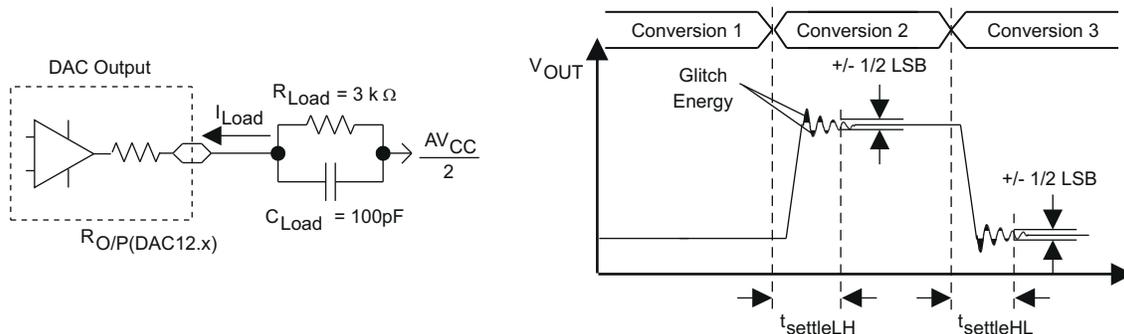
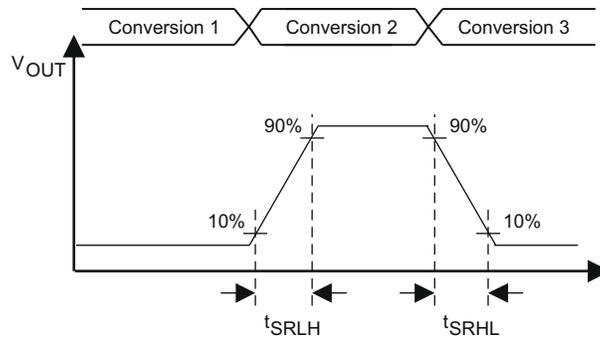

Figure 8-25. Settling Time and Glitch Energy Testing
Figure 8-26. Slew Rate Testing
V_{ref} = V_{CC}, DAC12IR = 1, over recommended operating free-air temperature range (unless otherwise noted) (see Figure 8-25 and Figure 8-26)
| t _{ON} DAC12 on time | DAC12_xDAT = 800h, Error _{V(O)} < ±0.5 LSB ⁽¹⁾ (see Figure 8-25) | 2.2 V, 3 V | | 60 | 120 | μs |
- (1) R_{Load} and C_{Load} connected to AV_{SS} (not AV_{CC}/2) in Figure 8-25.
- (2) Slew rate applies to output voltage steps ≥ 200 mV.